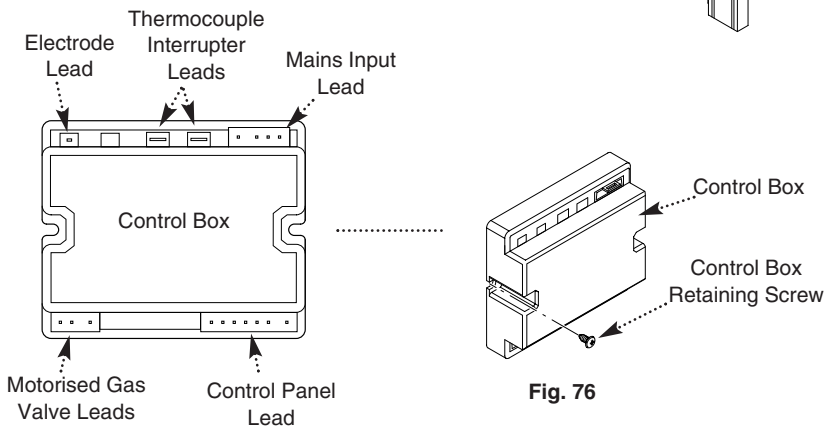

Fig. 75
3. Disconnect all of the wiring connections from the control box taking note of their positions (Fig. 75).
2. Disconnect the motorised gas valve leads from the control box (Fig. 75).